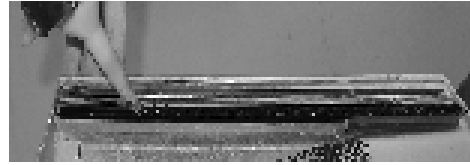

Figure 7
3. Remove the backing on the double-sided tape that is attached to the rocker. Below the double-sided tape put a bead of urethane in the groove the runs the entire length of the inside of the rocker panel. **Figure 7** shows the entire area and **Figure 8** shows a close up of the amount of urethane used. Make sure the bead of urethane stands a quarter of an inch off the groove so it will reach the body panels; if the bead is not thick enough it will not adhere to the car.